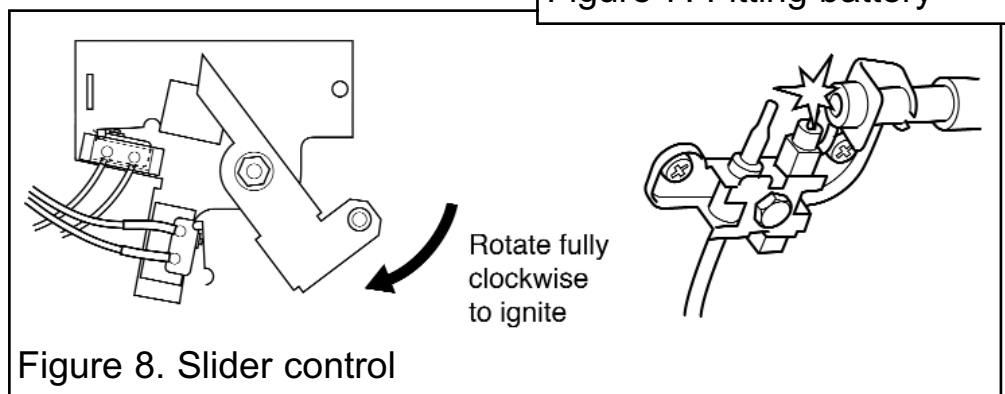

Figure 8. Slider control
- Depress the control pivot plate as far as it will go. This should close the ignition circuit. Sparks should be seen tracking from the electrode pin to the pilot tip (See figure 8).